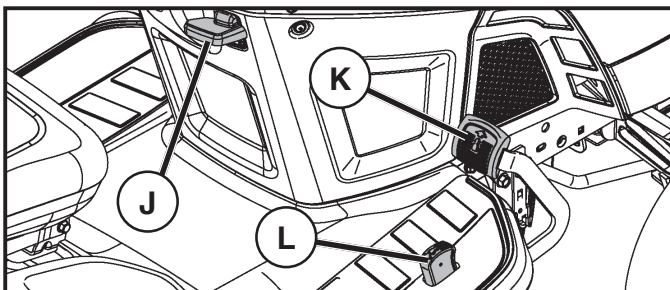

Fig. 8
TO MOVE FORWARD AND BACKWARD (See Fig. 8)
- Slowly depress forward (K) or reverse (L) drive pedal to begin movement. Ground speed increases the further down the pedal is depressed.
TO USE CRUISE CONTROL (J) (See Fig. 8)